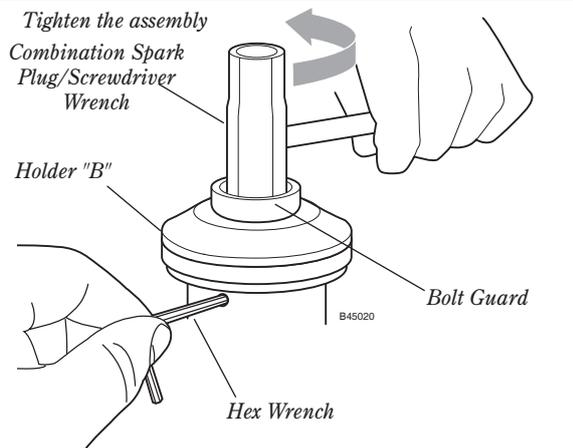

Figure 16
7. Lock holder A to the gearcase by inserting the long end of the hex wrench through both holes as done in step 1 and tighten the shaft bolt securely with the combination spark plug/screwdriver wrench. See Figure 16.